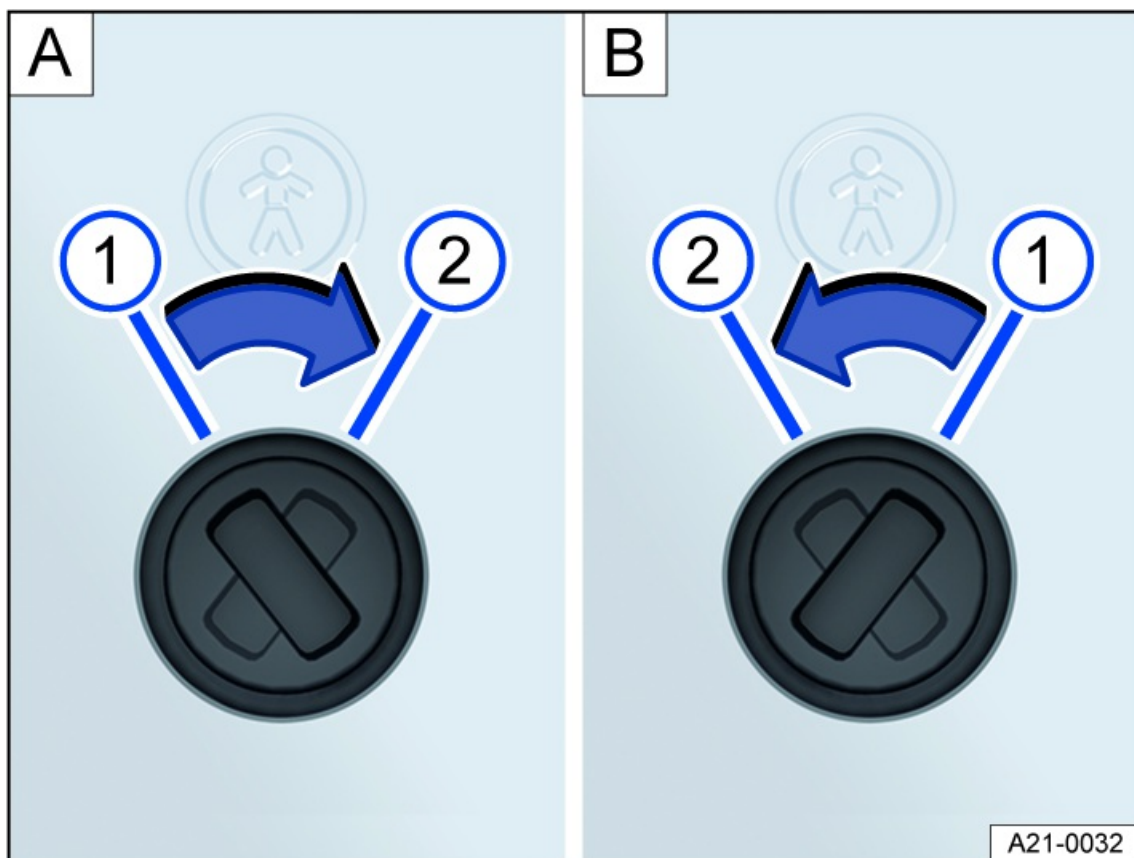

Fig. 57 Child safety lock: **A** left rear door, **B** right rear door.
2. Bring the slot into the corresponding position *fig. 57*.